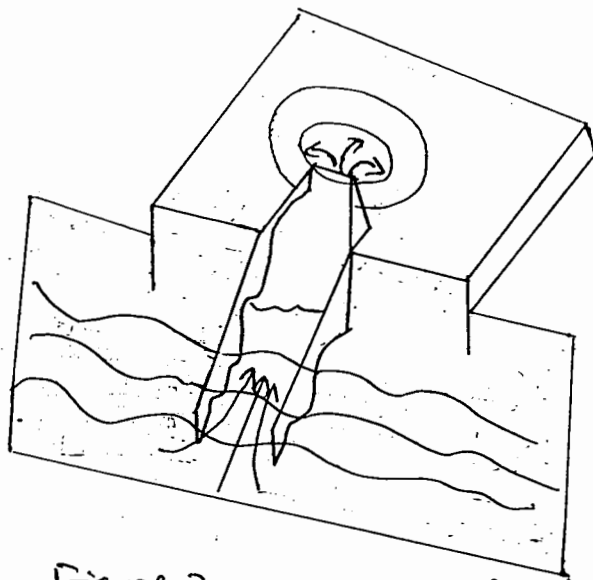

Figure 3 TAPCHAN Device.
- * Waves collect into a channel, which tapers into a large reservoir. as the wave width decreases, the wave amplitude increases according to the principle of conservation of energy & this enables the waves to travel up a ramp & pour into the reservoir as shown in Figure 3.